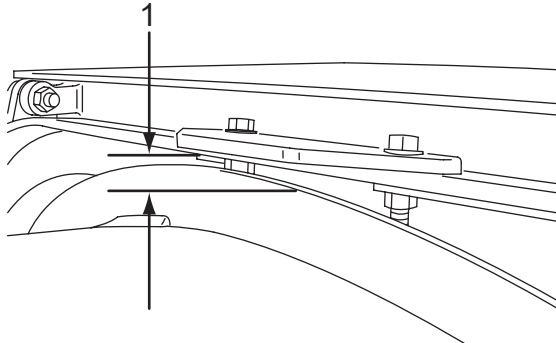

Figure 169
7. Check the debouncer-to-drip ring clearance (Figure 169, Item 1), the clearance should be 3/8 to 1/2 inch (10 to 13 mm) at the closest point.